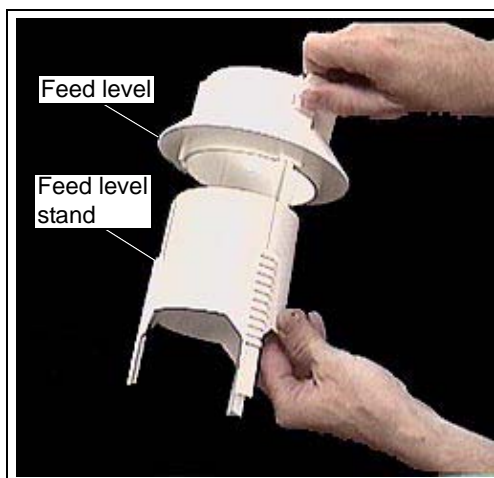

Figure 7AR
10. Place the clip into the preferred notch. *(See Figure 7AS.)*